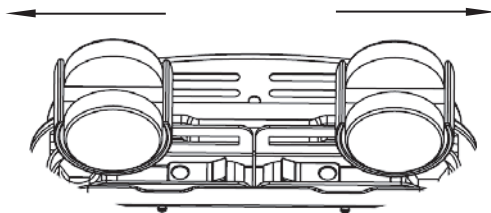

Figure 1
- 1 Turn the oil radiator upside-down, with the bottom facing up, as illustrated in Figure 1;